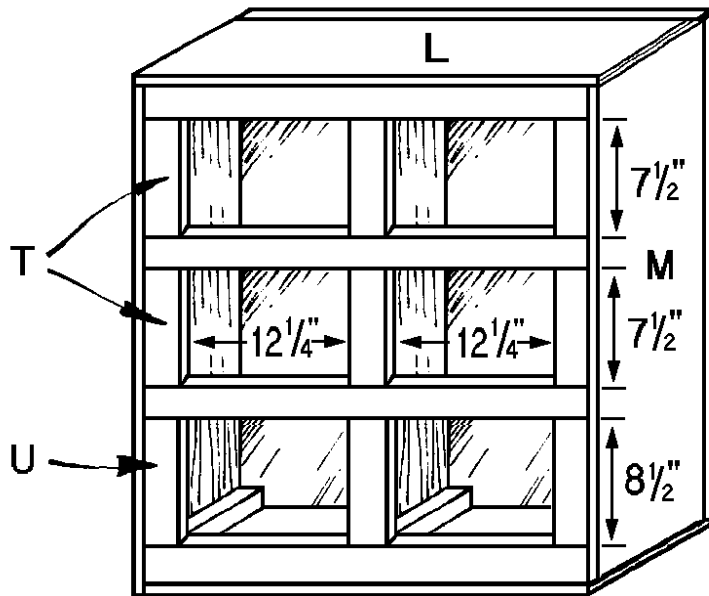

Figure 12
1. The front of the drawer housing consists of rails (horizontal members) and stiles (vertical members). These are the finished front of the drawer housing and will accommodate the drawers. A diagram of the rails and stiles is shown in *Figure 12*. It is very important that each of the stiles and rails are installed exactly square, or your drawers will not fit properly.
2. Cut four Rails (S) from 1 x 4 pine, each 35 inches long.
3. Cut six Upper Stiles (T) from 1 x 4 pine, each 7-1/2 inches long.
4. Cut three Lower Stiles (U) from 1 x 4 pine, 8-1/2 inches long.
5. Attach the four Rails (S) at the front of the completed housing. Pay particular attention to the spacing between the rails. The four upper openings must be exactly 7-1/2 x 12-1/4
inches, and the lower two openings must be exactly 8-1/2 x 12-1/4 inches, as shown in *Figure 12*. All four of the Rails (S) fit inside the exposed edges of the Housing Sides (M) and Top and Bottom (L). The rails cover the exposed edge of the center divider leaving a 2-inch allowance at the front. Glue and screw them in place with 2"-long screws, screwing through the Rails (S) into the 2 x 2 pine supports.
6. Attach the six Upper Stiles (T) as shown in *Figure 12*. They will fit flush with the Rails, and cover the exposed edge of the Center Divider (P). Glue and screw them in place, screwing through the Stiles and into the Center Divider (P) or Side Supports (R). Again use 2"-long screws. Toenail each of the Upper Stiles (T) to the adjoining Rail (S).
7. Attach the three Lower Stiles (U) as shown in *Figure 12*. They will also fit flush with the Rails, and cover the exposed edge of the Center Divider (P). Glue and screw them in place, screwing through the Lower Stile (T) and into the Center Divider (P) or the Side Supports (R). Toenail each of them to the Rail (S) above and below.